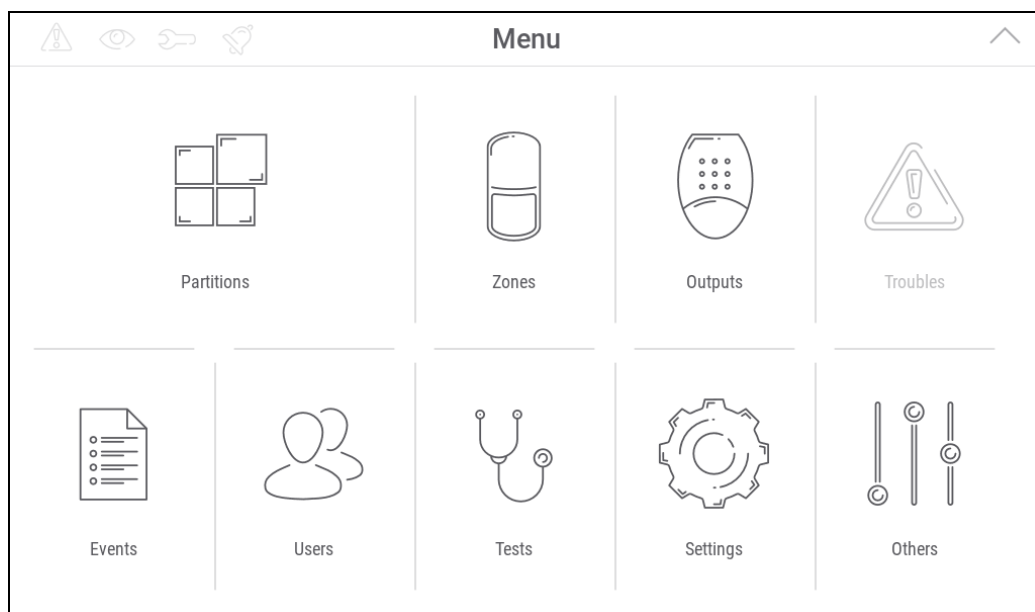

Fig. 4. User menu home screen.
3. Enter the service code (by default: 12345) and tap . The user menu home screen will be displayed (Fig. 4).